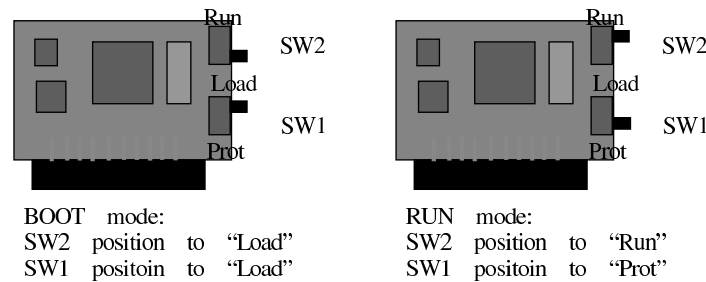

FIGURE 5. Switch Position for MicroStamp11
3.7. How does one download a program to the MicroStamp11? Before downloading your program you'll need to set the MicroStamp11 in *boot* mode. This is done by setting switches SW2 and SW1 in BOOT position and then pushing the reset button on the docking module. Figure 5 shows these switch positions. You place the device in boot mode by pushing the two switches towards each other. The device is placed in run mode by pushing the two switches away from each other.